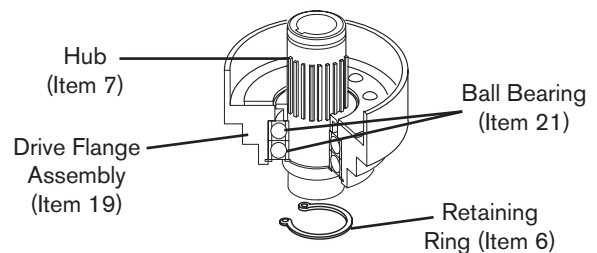

FIGURE 2
1. While fully supporting the two Ball Bearings (Item 21), press the Hub (Item 7) into the Drive Flange Assembly (Item 19) (See Figure 2).
2. Install the Retaining Ring (Item 6) (See Figure 2).